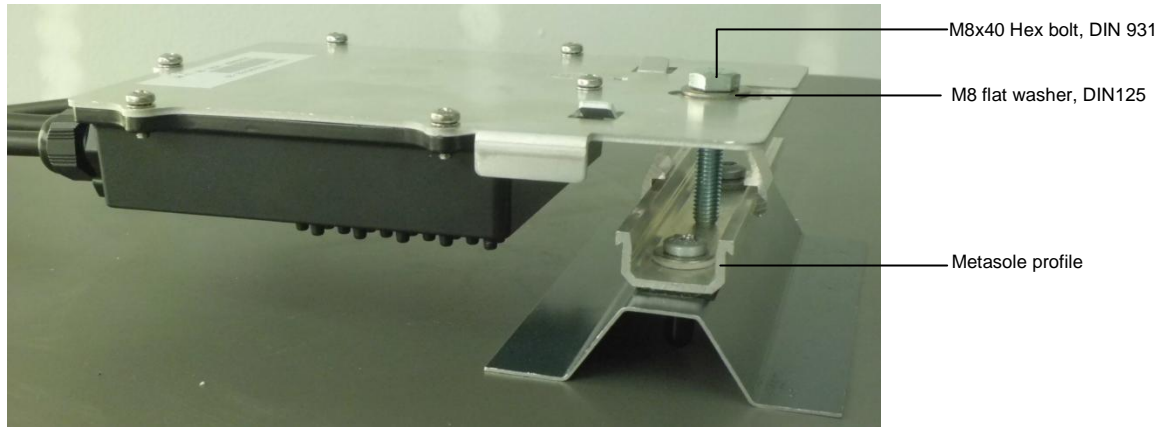
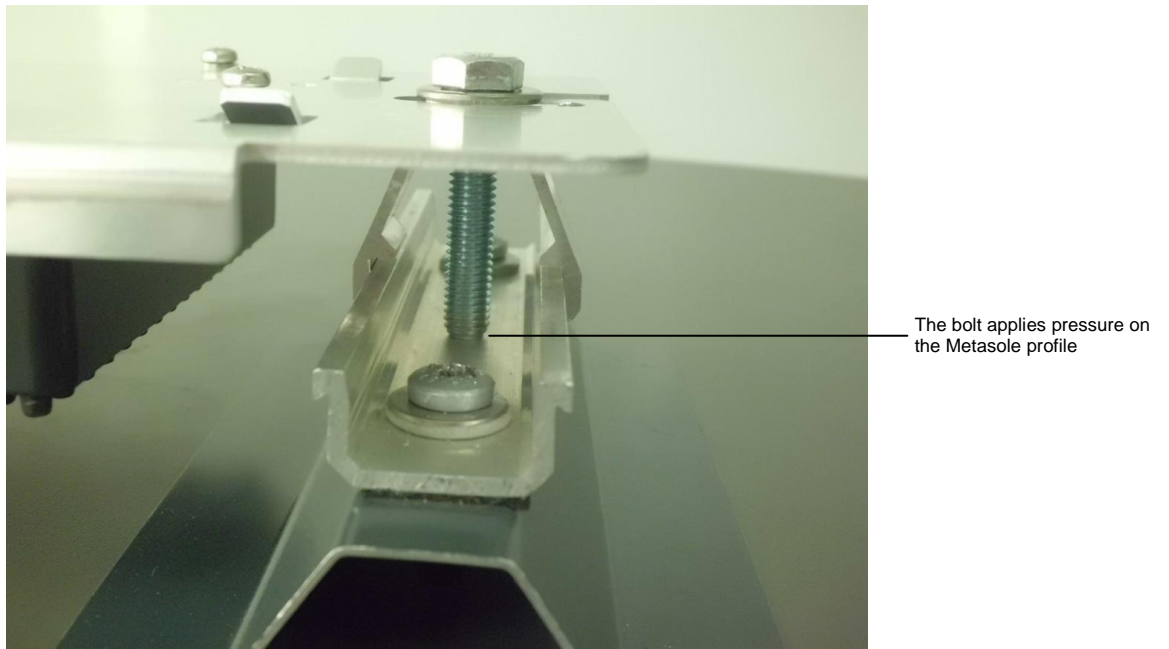

Figure 4 - Power optimizer mounted on the Metasole bracket
Figure 5 – The bolt applies pressure on the profile
- 4** Mount the power optimizer on the bracket using the M8x40 stainless steel Hex bolt and washer (see Figure 4). Make sure that the bolt is firmly secured until it applies pressure against the profile (see Figure 5). Power optimizers are double insulated and, therefore, do not require grounding.